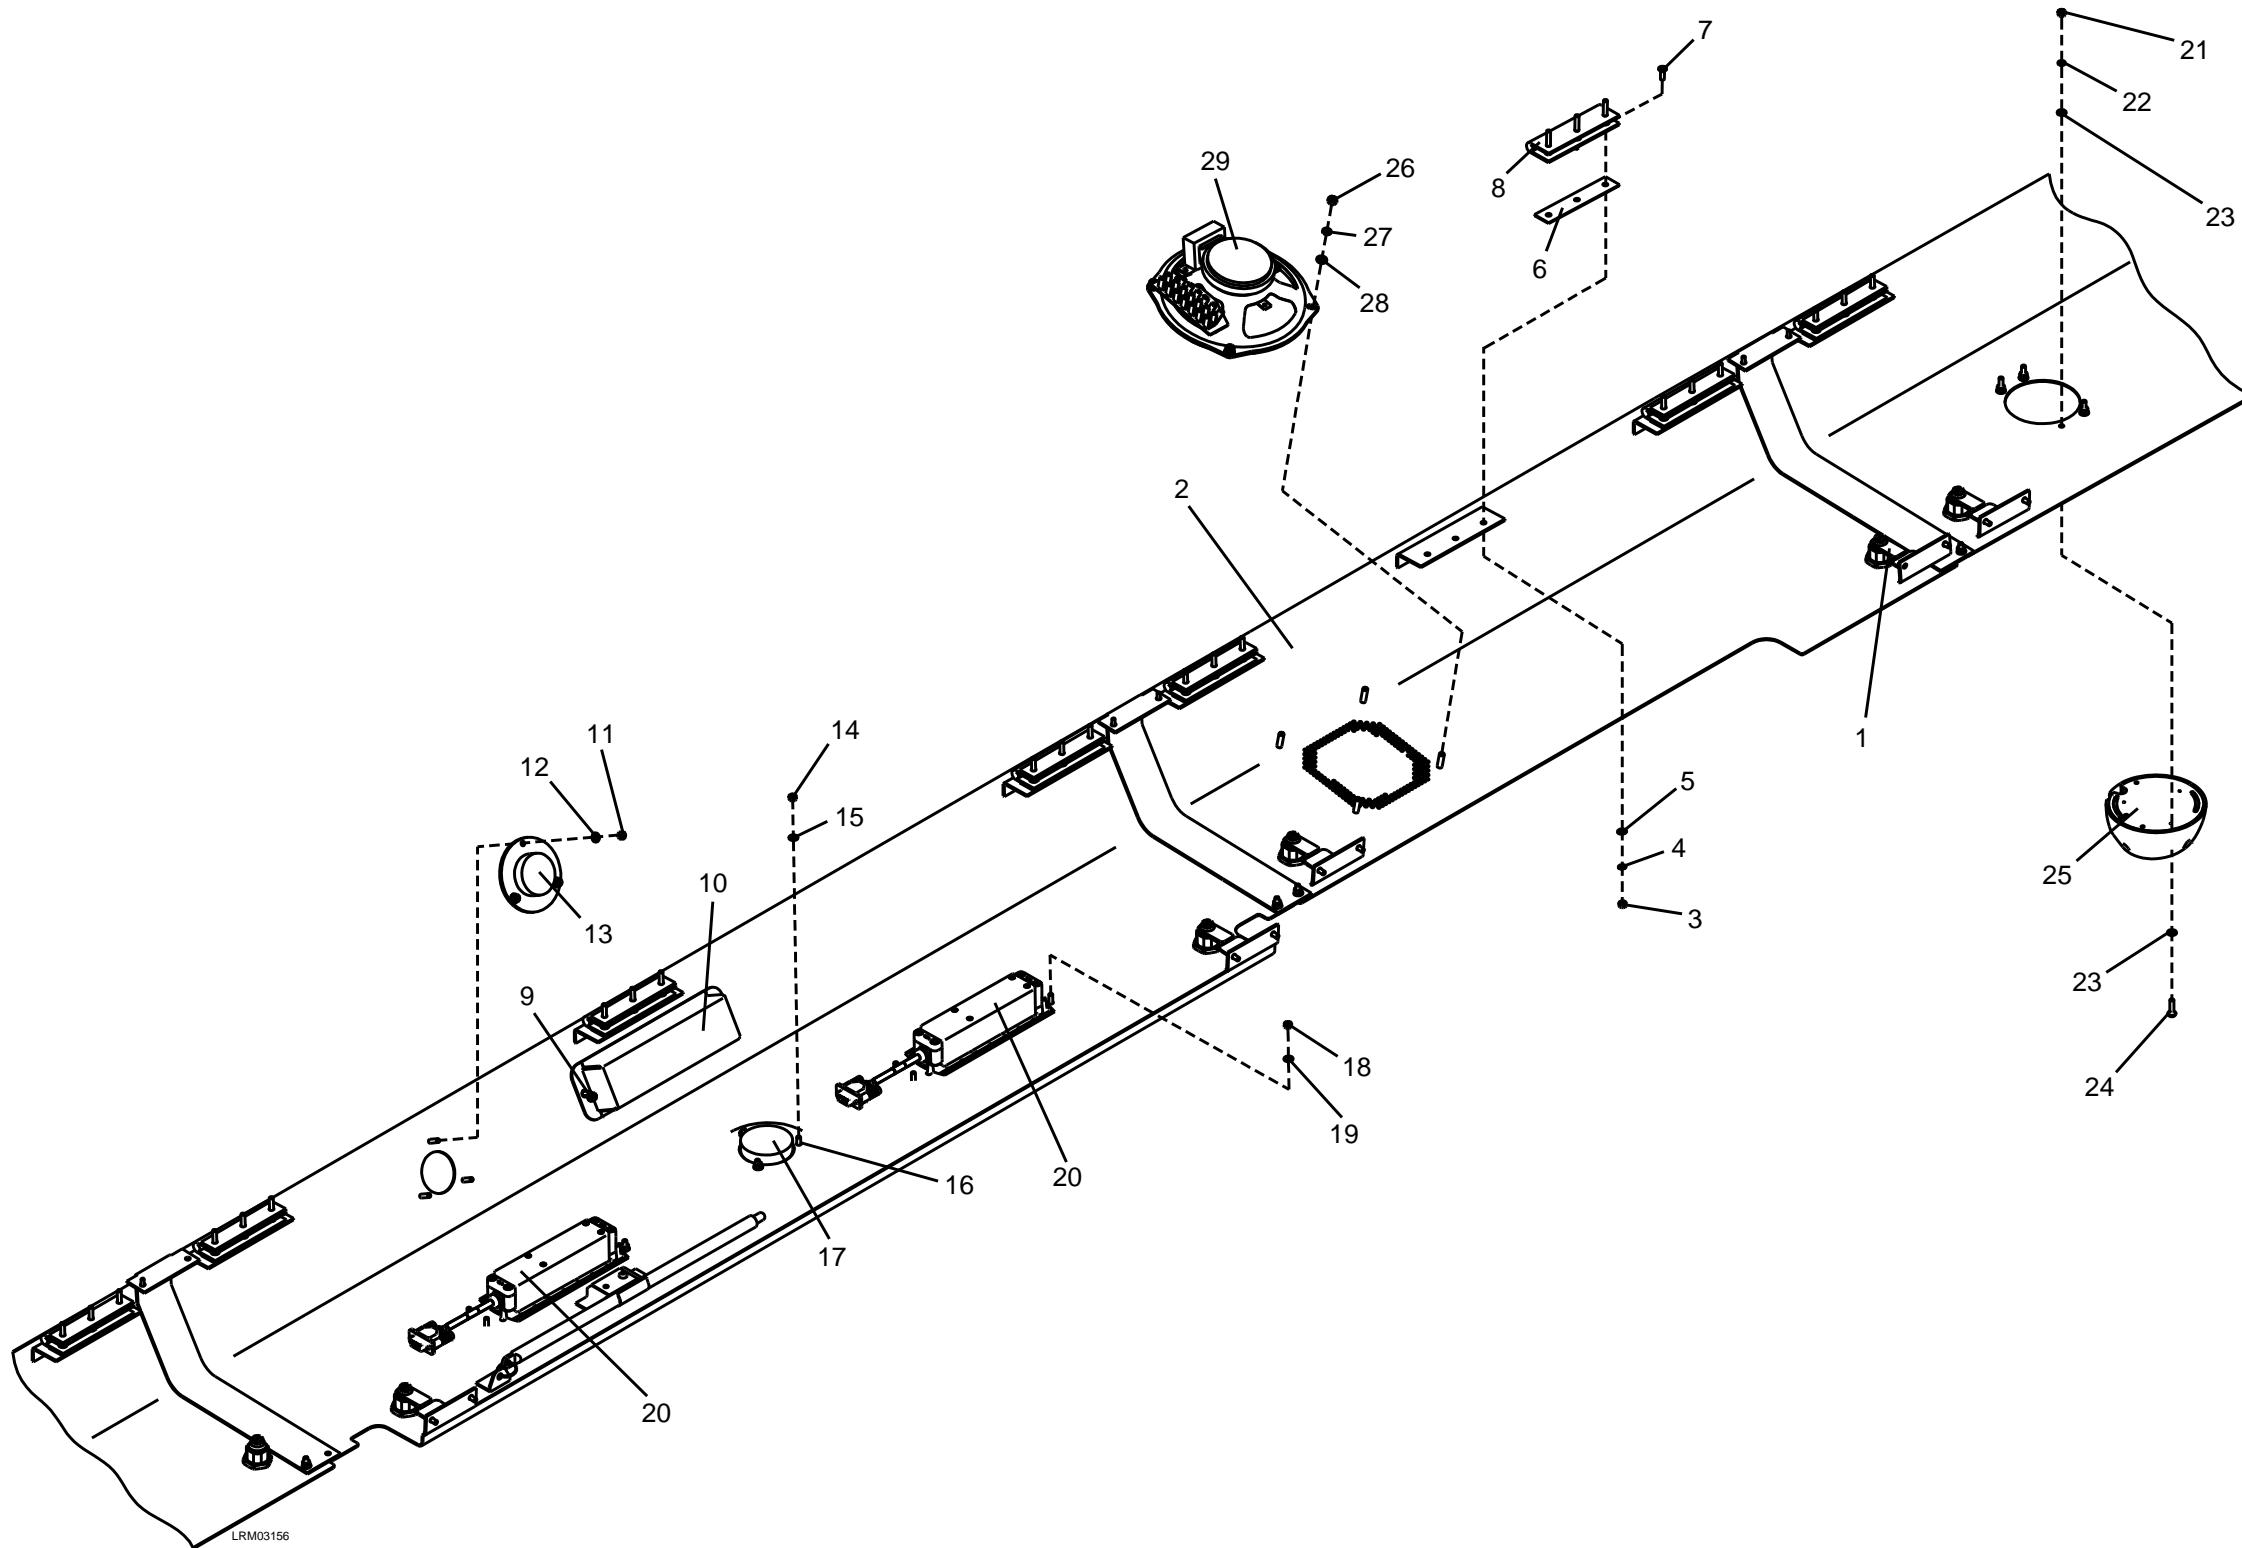

Figure 7-83: Side Access Cover
1. Turn the two locks (1) to open the Side Access Cover (2). See Figure 7-83.
2. Remove the three M4 nuts (3), M4 lock washers (4), M4 plain washers (5), packing (6) and M4 x 14 screws (7) from the hinge (8).
3. Repeat step 2 for the remaining two hinges (8).
4. Remove the side access cover (2).
5. Repeat step 4 for the remaining Side Access Covers (2).
2. Disconnect the electrical connector from the Door Out Of Service Sign (10). See Figure 7-83.
3. Remove the two M5 nuts (9) from the Door Out Of Service Sign (10).
4. Remove the Door Out Of Service Sign (10).
2. Disconnect the electrical connector from the Door Closing Chime (13). See Figure 7-83.
3. Remove the three M4 nuts (11) and M4 plain washers (12).
4. Remove the Door Closing Chime (13).
2. Disconnect the electrical connector from the Door Closing Light (17). See Figure 7-83.
3. Remove the three M4 nuts (14), M4 plain washers (15) and M4 x 16 screws (16).
4. Remove the Door Closing Light (17).
2. Disconnect the electrical connector from the Automatic Passenger Counter sensor (20). See Figure 7-83.
3. Remove the four M4 nuts (19) and M4 plain washers (18).
4. Remove the Automatic Passenger Counter sensor (20).
5. Repeat steps 1 through 3 for the remaining Automatic Passenger Counter sensor (20).
2. Disconnect the electrical connector from the Interior View Camera (25). See Figure 7-83.
3. Remove the four M4 nuts (21), M4 lock washers (22), eight M4 plain washers (23) and M4 x 16 screws (24).
4. Remove the Interior View Camera (25).
2. Disconnect the Faston connectors from the Interior Speaker (29). See Figure 7-83.
3. Remove the four M5 nuts (26), M5 lock washers (27) and M5 plain washers (28).
4. Remove the Interior Speaker (29).